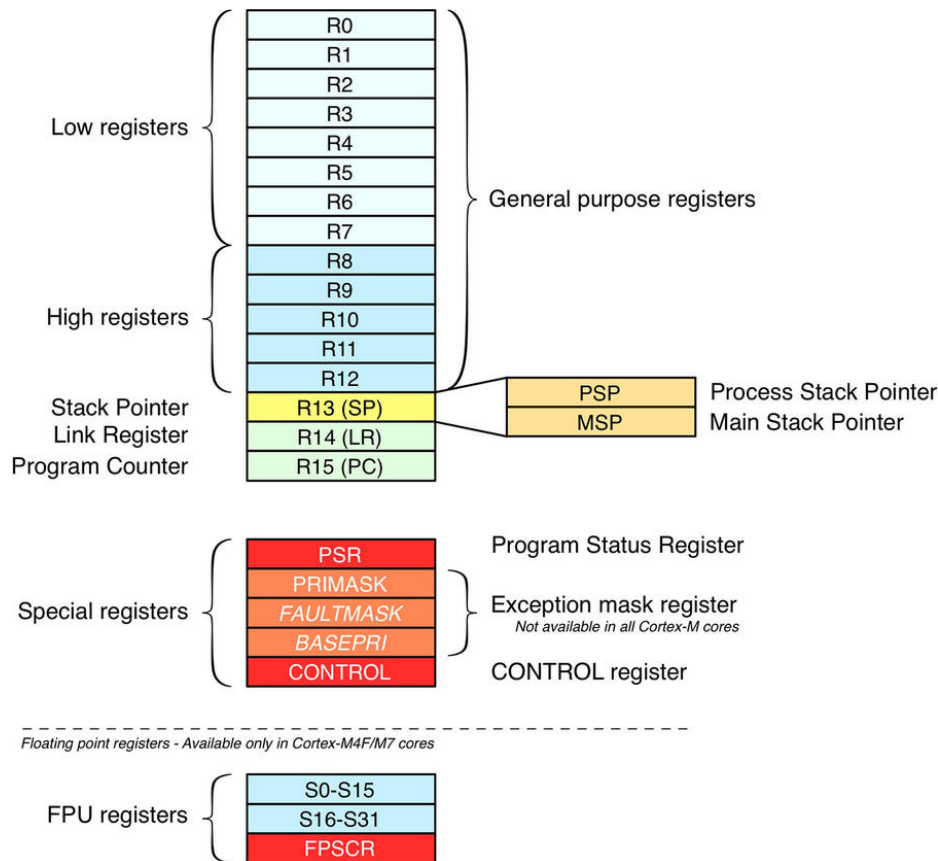

Figure 2: ARM Cortex-M core registers
Figure 2 shows the core Cortex-M registers. Some of them are available only in the higher performance series like M3, M4 and M7. R0-R12 are general-purpose registers, and can be used as operands for ARM instructions. Some general-purpose registers, however, can be used by the compiler as registers with *special functions*. R13 is the *Stack Pointer (SP)* register, which is also said to be *banked*. This means that the register content changes according to the current CPU mode (privileged or unprivileged). This function is typically used by Real Time Operating Systems (RTOS) to do context switching.